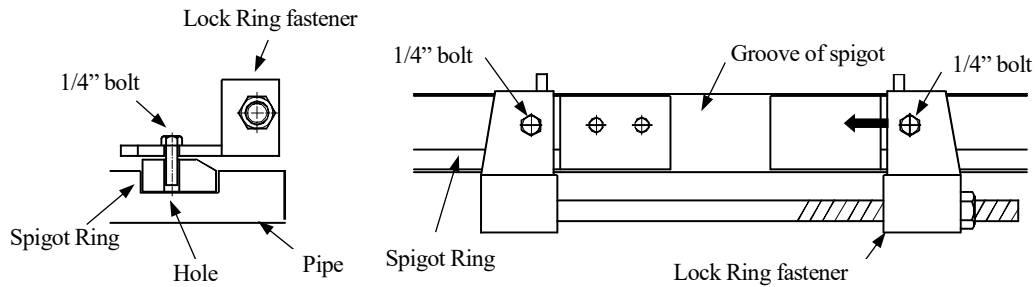

Figure-29 Installation of Spigot Ring in the groove of spigot
- 5) Tighten the fastener to retain the Spigot Ring in the groove. (See Figure-29.)